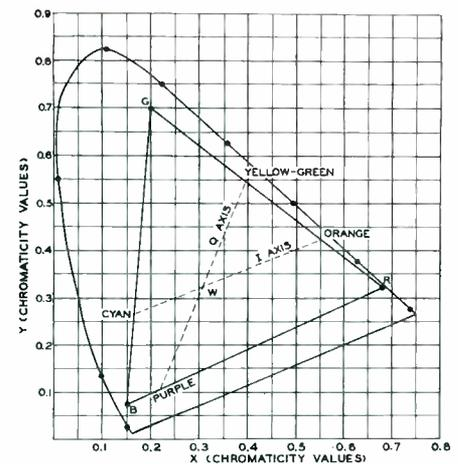

Fig. 2. Color Triangle of the Three Primaries Chosen by the NTSC.
Any set of primaries can be plotted on the chromaticity diagram. The rule which governs the choice of primary colors is that no two primaries should be the same and that the combination of any two should not be capable of matching the third. The three primaries chosen by the NTSC are shown plotted in Fig. 2. They form a triangle with its three points at red (R), green (G), and blue (B). This is known as the color triangle for this particular set of primaries. Any color which falls within the area of the triangle can be
A line drawn from yellow-green to purple represents the colors in which less detail can be seen (see Fig. 2). The line shown from orange to cyan indicates the colors in which medium detail can be seen. These lines represent the two axes of the color signal under linear transmission. The line from yellow-green to purple is the Q-axis, while the line from orange to cyan is the I-axis. Q and I are two components which make up the chrominance portion of the color picture signal. Colors along the Q-axis are depicted when only the Q-component is active. During this time the I-component is inactive ($I = 0$). Conversely, when only the I-component is active, colors along the I-axis are depicted. The Q-component is inactive at this time ($Q = 0$). During the time both the I-signal and Q-signal are active, depending on their relative amplitudes, any point in the color triangle can be represented by a resultant chrominance signal. There are three conditions which result from the foregoing. When all three signals (Y, Q, and I) are active, the color system reproduces in the three-primary method. This is when reproduction is accomplished in full color. When the Q-signal is inactive